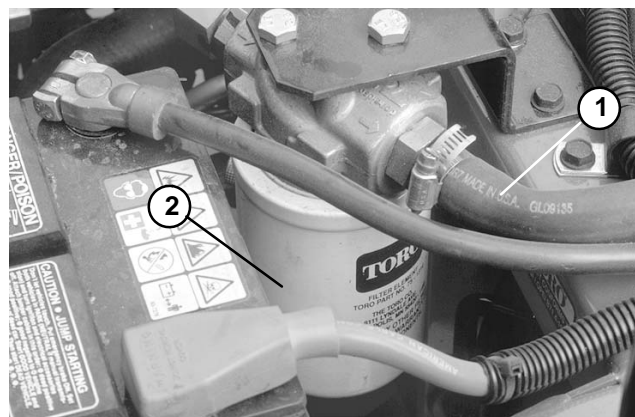

Figure 23
C. If the oil cooler is **not** installed, disconnect hydraulic hose from the hydraulic oil filter (Fig. 23).